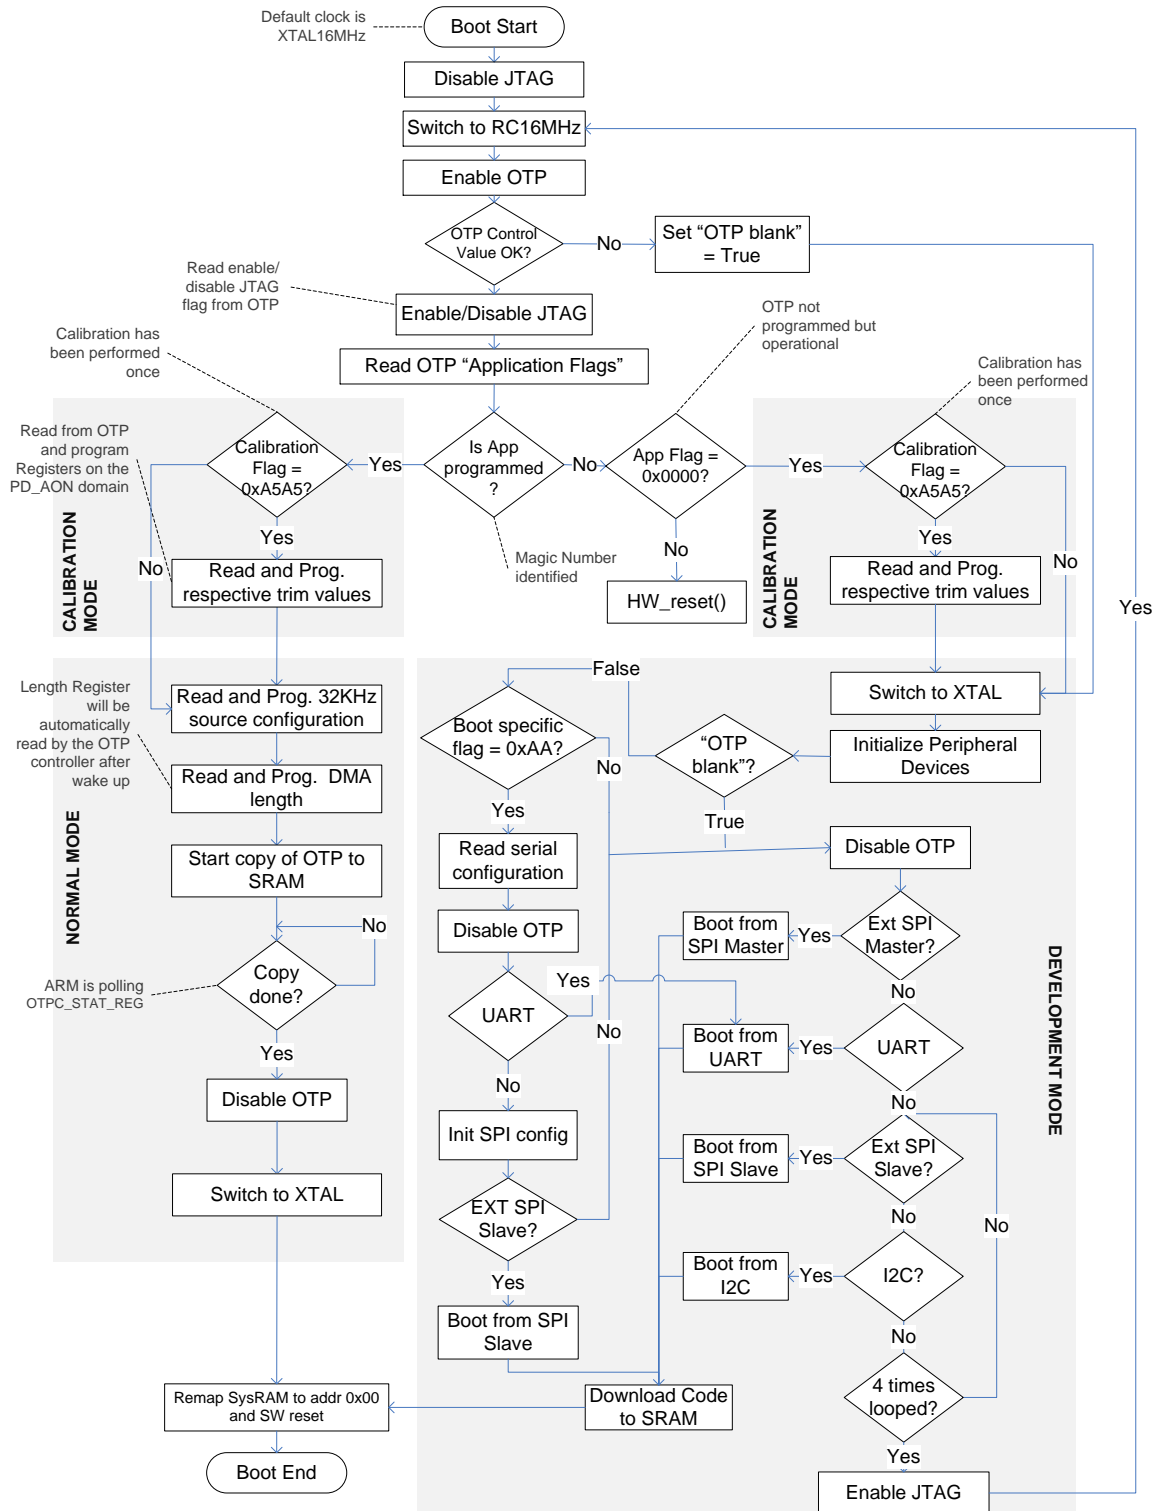

Figure 12: BootROM Sequence
The booting process of the DA14585 is presented in Figure 12.
**Note 1** This step is performed in a 4 times' loop (see Figure 12). SCK in 1st iteration is 8 MHz, in 2nd 4 MHz, in 3rd 2 MHz and in 4th 1 MHz.